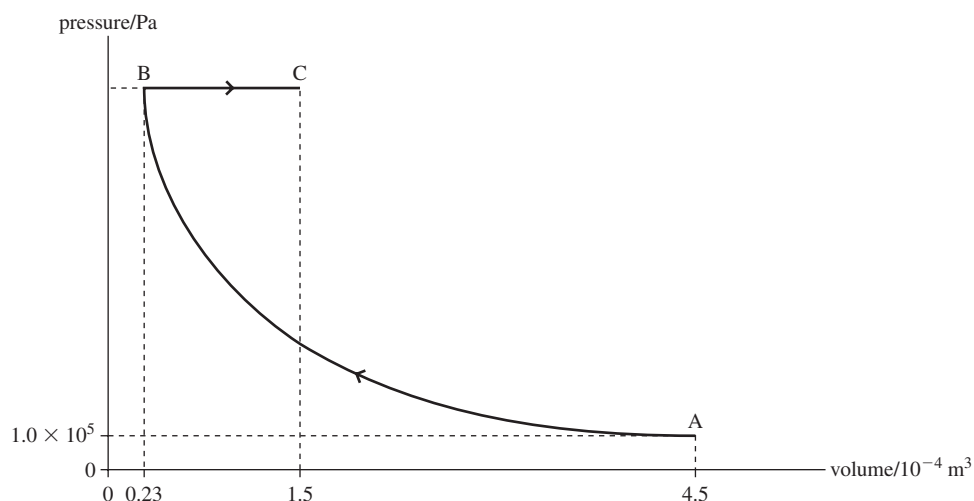

Figure 11
- (b) **Figure 11** shows part of an ideal diesel engine cycle in which a constant mass of air is compressed adiabatically, $A \rightarrow B$, and is then heated at constant pressure, $B \rightarrow C$.